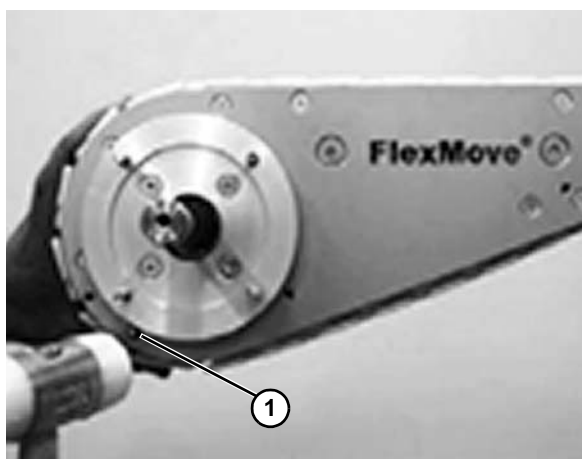

Figure 57
4. Tension the chain and remove links if necessary, so that the chain will exhibit some slack at the drive unit. Put in the stainless steel pin (**Figure 57, item 1**) at the hole provided at drive unit and join the chain.